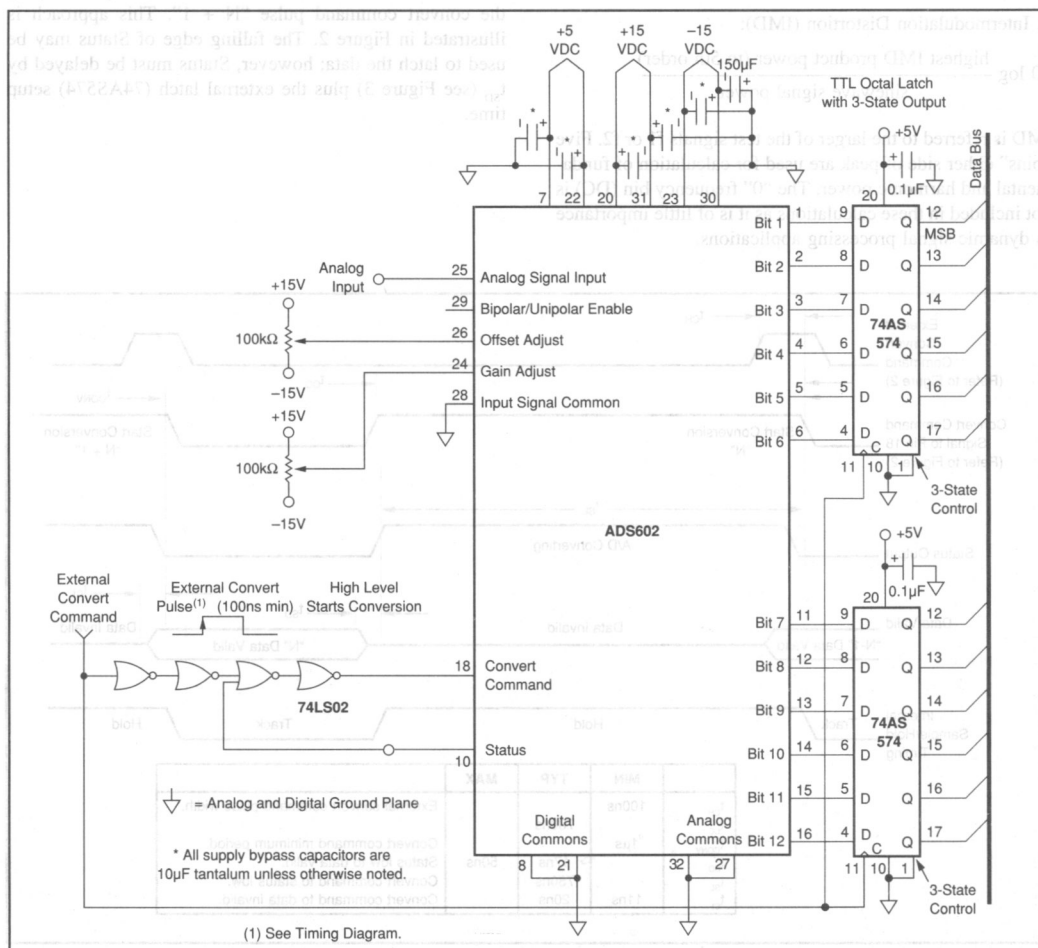
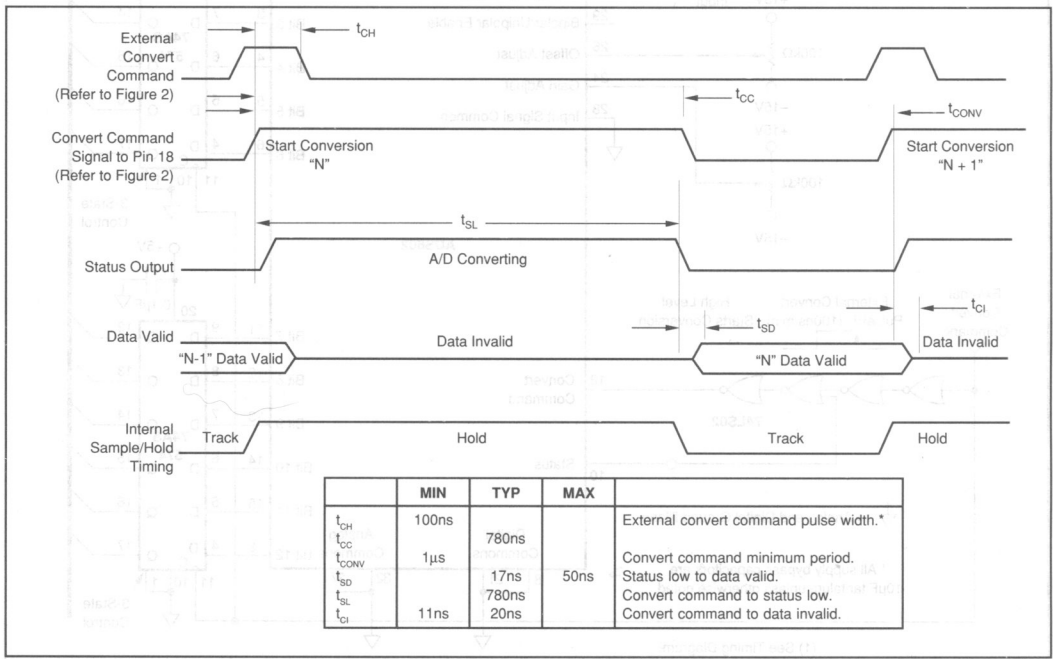

FIGURE 2. ADS602 Application Circuit.
FIGURE 3. ADS602 Logic Timing Diagram.
The basic connection for the ADS602 is shown in Figure 2. It is shown connected for $\pm 5V$ bipolar operation. For unipolar operation, pin 29 should be grounded.
The +15V and +5V power supply pins should be bypassed with a 10 μ F tantalum capacitor as shown in Figure 2. Pin 30 requires bypassing with a 150 μ F tantalum capacitor. These capacitors should be located close to the ADS602 supply pins. Ceramic 0.01 μ F bypass capacitors have been provided internally for more effective bypassing and need not be added externally.
Gain and offset errors may be trimmed to zero using external trim potentiometers as shown in Figure 2. Multiturn potentiometers with 100ppm/°C temperature coefficient are recommended for minimum drift. If the gain adjust or offset adjust pins are not used, they must be grounded to meet the specified accuracy.
In addition to the timing details in Figure 3, the following list contains some important timing considerations for the ADS602:
2. The rising edge of the convert command pulse initiates a conversion. This convert command should remain high until the Status falls (i.e., the internal ADC is finished converting). A simple circuit that provides the correct convert command (pin 18) pulse length, is shown in Figure 2.
4. The data from conversion "N" can be latched directly by the convert command pulse "N + 1". This approach is illustrated in Figure 2. The falling edge of Status may be used to latch the data; however, Status must be delayed by t_{SD} (see Figure 3) plus the external latch (74AS574) setup time.